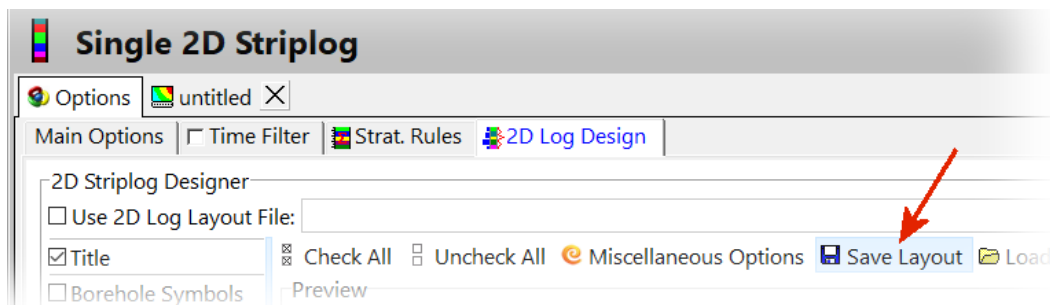

Figure 5
- Notice that there's an option within the 2D Log Design menu titled "Save Layout" (Figure 5). This provides a means for using this particular striplog layout to eliminate the hassle of re-creating it within other projects.